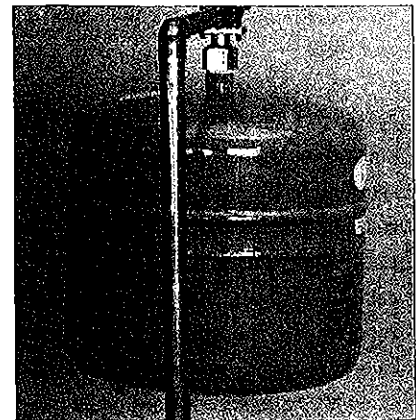

Figure 5 - A Thermal Expansion Tank helps protect the home's plumbing system from pressure spikes.
- Thermal Expansion Tank (see next page, figure 5)
Verify that you have a properly sized Thermal Expansion Tank (figure 5). We recommend installing an expansion tank if your home does not have one. Codes require a properly pressurized, properly sized Thermal Expansion Tank in almost all homes. (See photo on inside front cover.)